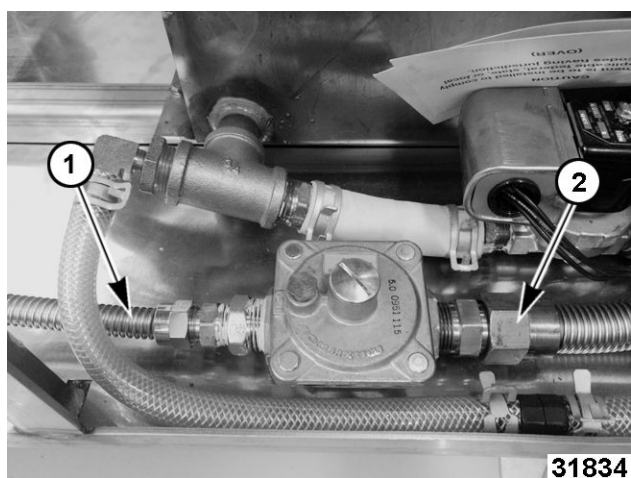

Fig. 15
14. Install other end of 1/2" flex hose (1, Fig. 15) to flare fitting regulator outlet.
15. Install 3/4" flex hose (2, Fig. 15) gas supply hose to regulator inlet.
**NOTICE** Verify regulator is level in a horizontal position as shown in Fig. 15.